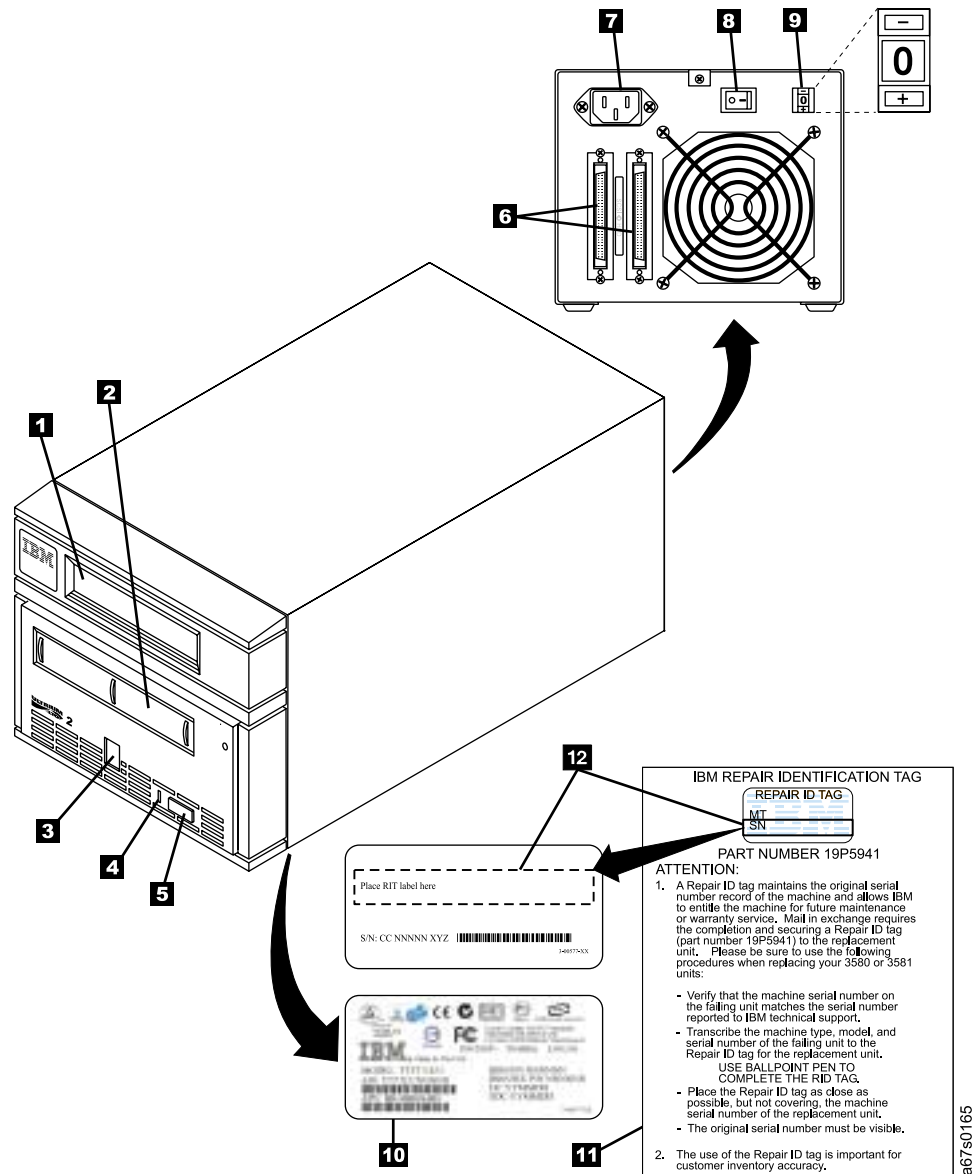

Figure 23. Components of the 3580 Ultrium 2 Tape Drive
2. Locate the repair tag (included with the replacement drive). See **12** in Figure 23 on page 53)